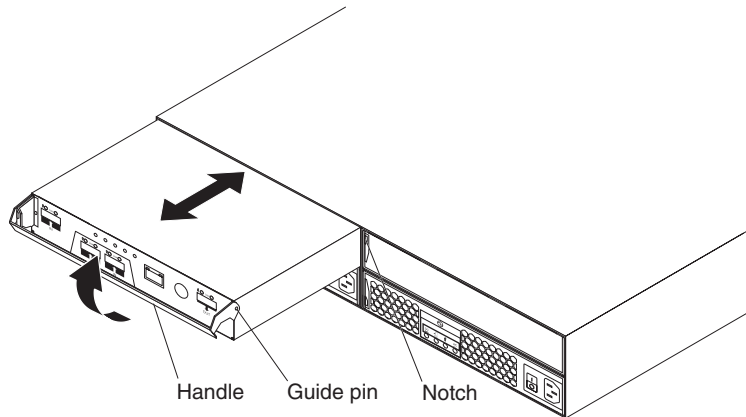

Figure 61. Removing and replacing a controller
- b. Slowly pull the handle away from the chassis to remove the controller from the bay, as shown in Figure 61.
- b. Make sure that the guide pins on the side of the controller fit into the notches on the DS3400 chassis. See Figure 61 on page 82.